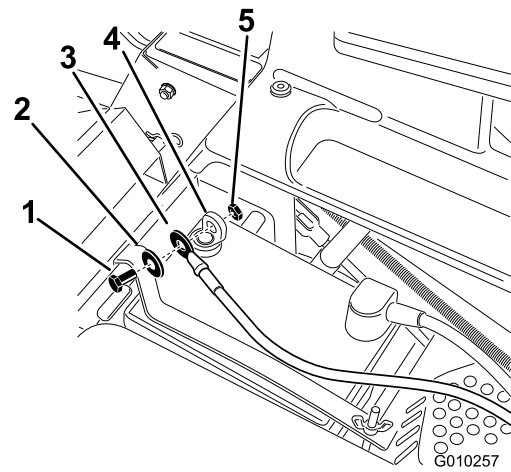

Figure 1
2. Remove the black plastic cap from the negative battery post. Remove the fasteners from the negative battery cable and use them to secure the negative battery cable to the negative battery post (Figure 1).